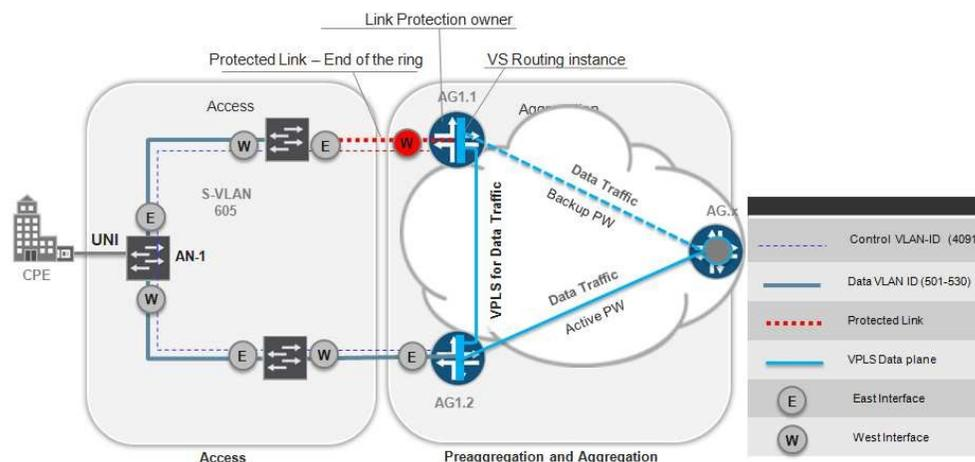

Figure 5 – G.8032 with Ethernet to VPLS Stitching: E-Line or E-Access
- E-LINE or E-ACCESS services—Use a combination of Ethernet ring and redundant pair of the pseudowires established between AG1.1/AG1.2 routers, and remote MPLS access node, respectively (see Figure 5).
The AG1.1 router acts as a protected-link owner, so that in its normal state without failure, the west Ethernet link is blocked. For the E-Line or E-Access deployment scenarios (shown in Figure 5), to enable optimal traffic flow in normal situations, use the AG1.2 router to terminate an active pseudowire, and use the AG1.1 router as the backup pseudowire.